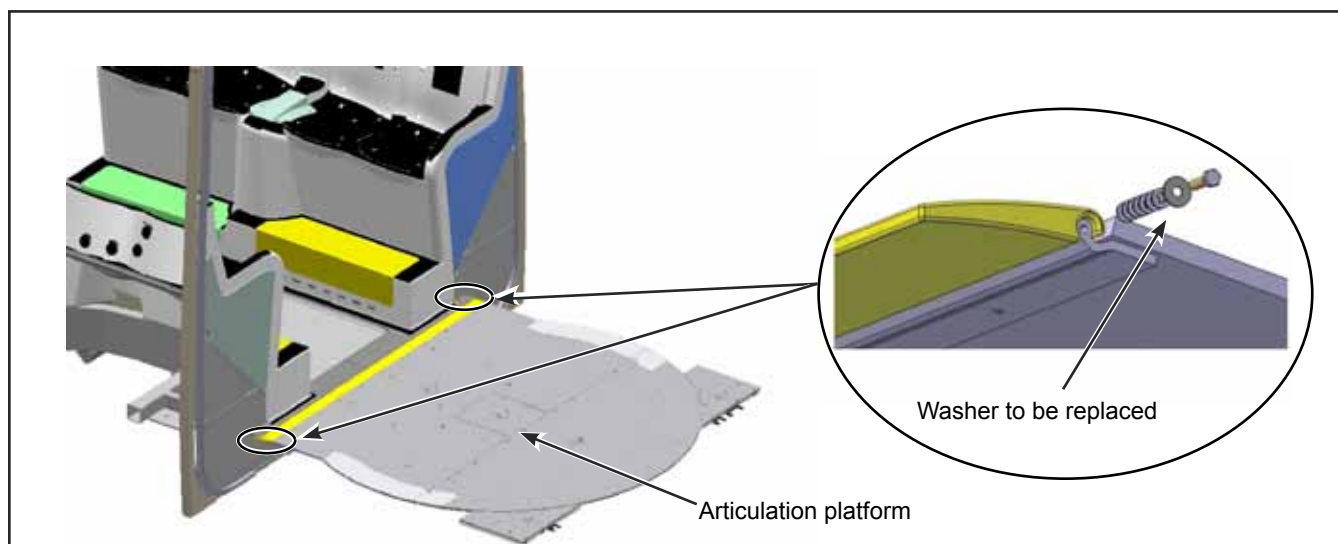

Figure 2 - Washers to be Replaced
- 1.2. Remove the bolt with the washers. See Figure 2. Retain the hardware, except the 5/8 in (15 mm) washer, which must be discarded.